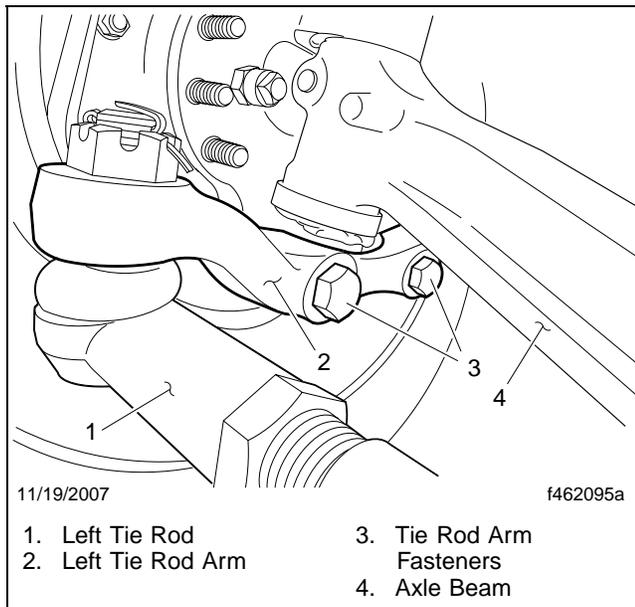
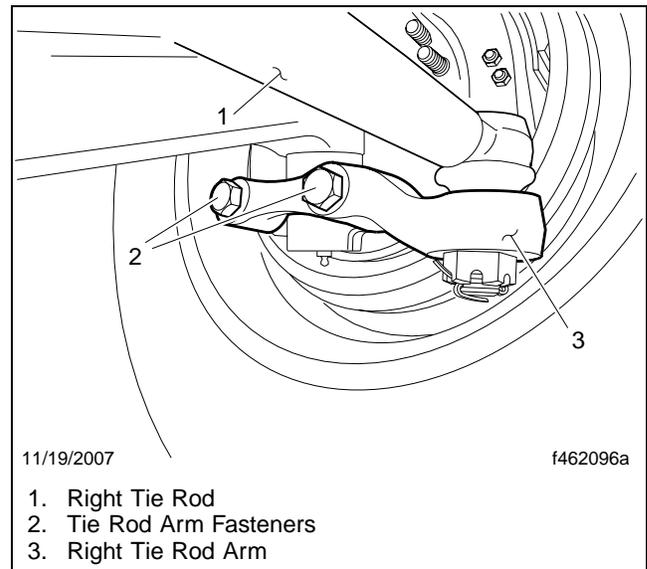

Fig. 1, Left Side of Vehicle
Fig. 2, Right Side of Vehicle
- 7.1 Remove and discard the fasteners that hold the tie rod arms to the steering knuckles. See **Fig. 1** and **Fig. 2**.